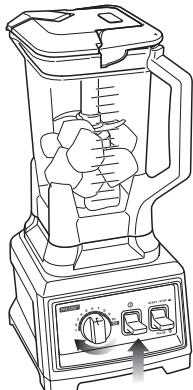

Fig. 6
- 10 Turn the Variable Speed Dial to speed 1. (Fig. 6) The power indicator light (⊕) will now turn on. To start the blender, press the "Power" toggle up, then press the "Start/Stop/Pulse" toggle up to start processing. Slowly increase to desired speed.